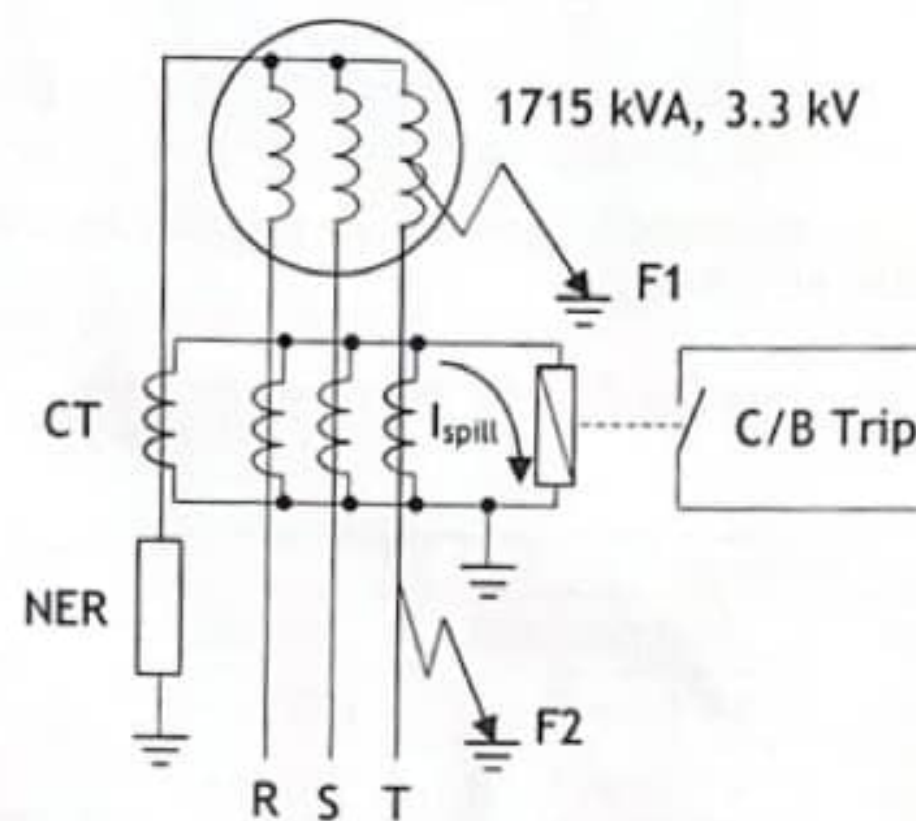

Fig Q4
4. Fig Q4, shows a 1715 kVA, 3.3 kV generator with a stator earth fault protection scheme using four identical current transformers (CT) and a relay activated by the spill current.